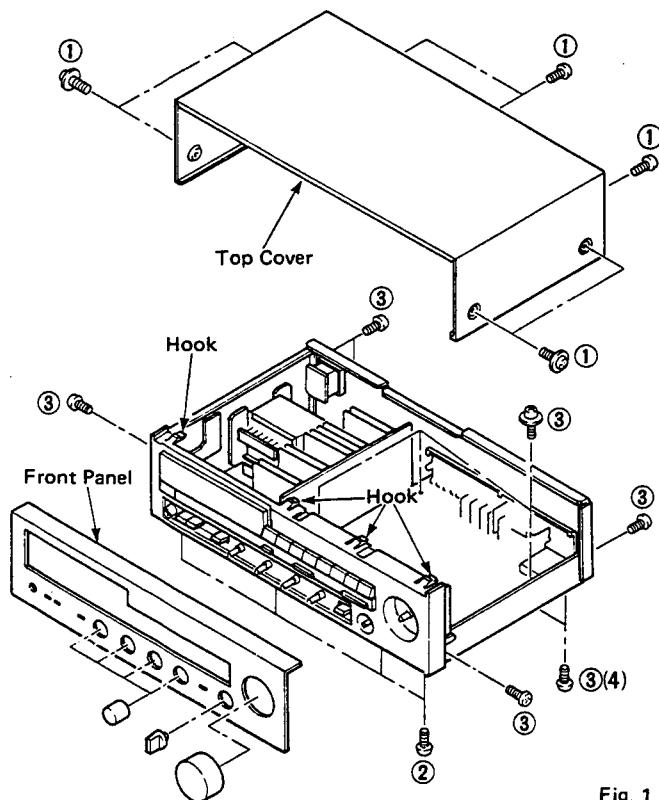

Fig. 1.
Remove 7 screws (①) in Fig. 1, and slide the Top Cover back.
Remove 4 screws (②) and 4 hooks in Fig. 1, and pull the Front Panel forward.
3. Check of Main Circuit Board (1) & replacement of parts.
- a. Remove 12 screws (③) in Fig. 1.